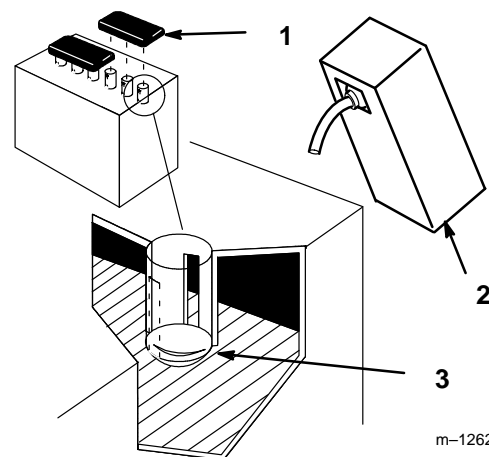

Figure 2
2. Remove filler caps from the battery. Slowly pour electrolyte into each cell until the electrolyte level is up to the lower part of the tube (Fig. 2).
5. Slowly pour electrolyte into each cell until the level is once again up to the “UPPER” line on the battery case (Fig. 2) and install covers.